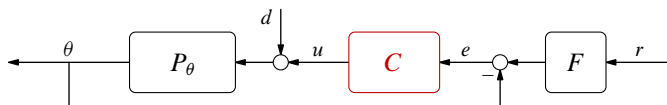

Fig. 1: Closed-loop system with prefilter
for comparison, do not forget to use the correct physical units for the parameters. The closed-loop system operates in the form shown in Fig. 1, where the prefilter F (its goal is to smoothen the input signal) has the transfer function
8. Connect blocks to implement the feedback loop depicted in Fig. 1.
9. Enter the block `Plant` (by double clicking it), and modify the gain block in it with the conversion factor obtained in item 5.